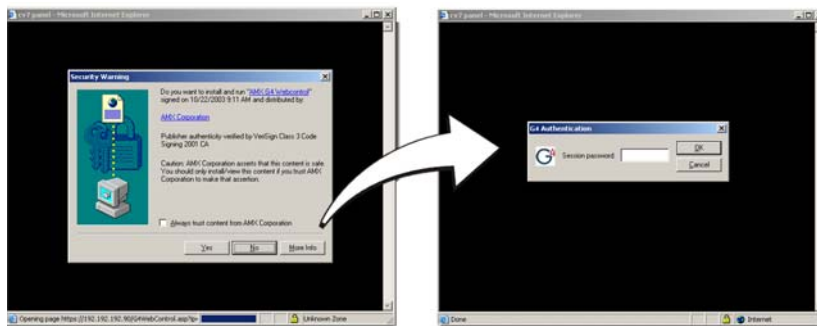

FIG. 44 Web Control VNC installation and Password entry screens
- Click on the G4 panel name link associated with the target panel. A secondary web browser window appears on the screen (FIG. 44).